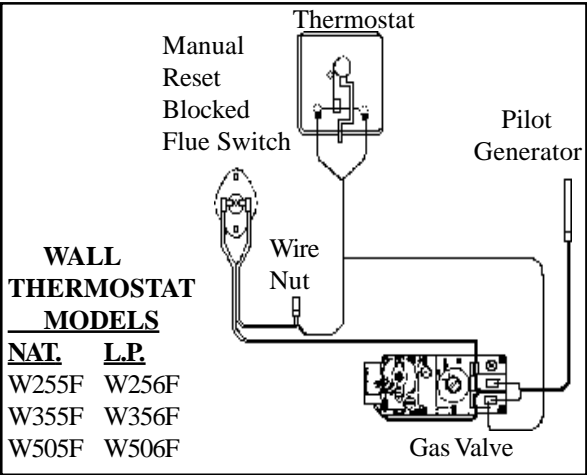

FIGURE 8
**YOUR FURNACE IS SHIPPED WITH A WALL THERMOSTAT** (Figure 8). YOU MAY CONVERT CONTROL TO BUILT-IN BULB CONTROL WITH THE OPTIONAL BBSK KIT. SEE PAGE 13, 14 and 15 FOR INSTALLATION INSTRUCTIONS.